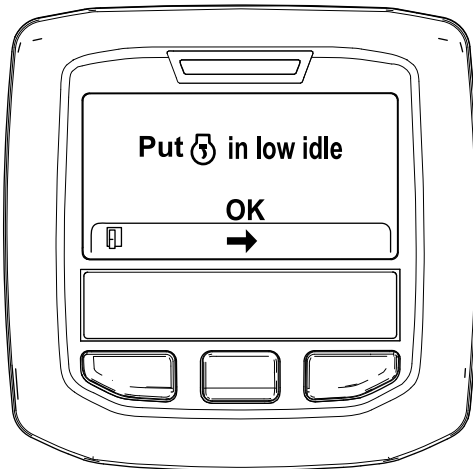

Figure 49
6. Move the throttle control to LOW IDLE and press the center button (Figure 49).